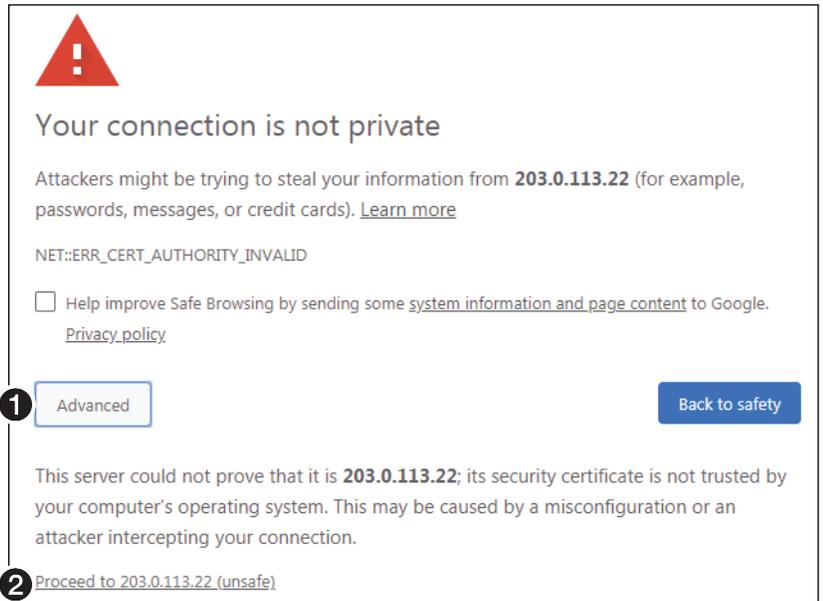

Figure 3. Privacy Error Message (in Chrome Browser)
3. Press the keyboard <Enter> key. The browser displays a privacy error message (see figure 3 at right for an example in the Chrome browser).
4. Click **Advanced** (see figure 3, ❶). The button changes to **Hide Advanced** and explanatory text and a link appear below the button.